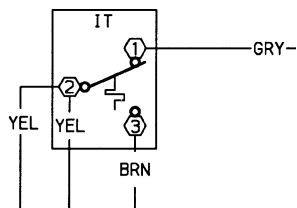

FIGURE 48 — INDOOR THERMOSTAT (IT) CONTACTS, ALL 52CE, PE MODELS
■ **INDOOR THERMOSTAT (Heat/Cool and Cool Only Units) (Figure 48)** — The thermostat maintains the selected temperature by cycling the compressor on and off during cooling operation and the electric heater during heating operation. **The thermostat DOES NOT switch from heating to cooling, or cooling to heating.** If the switch is in the CYCLE position, then the fan will be cycled off when the thermostat satisfies.